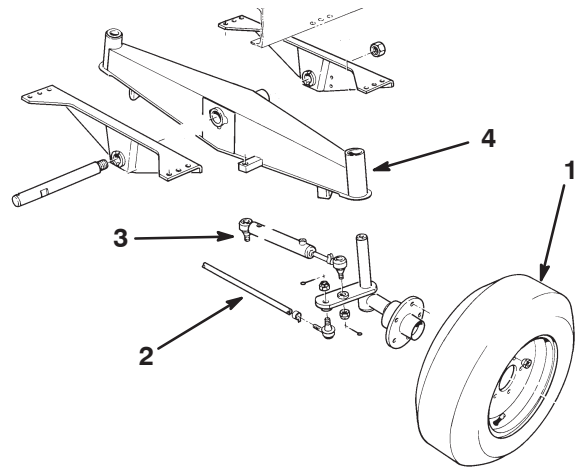

Figure 1
1. Disconnect and remove the rear tires, tie rod assembly, and steering cylinders from the rear axle assembly (Fig. 1). Remove the rear axle assembly and discard the mounting locknut.